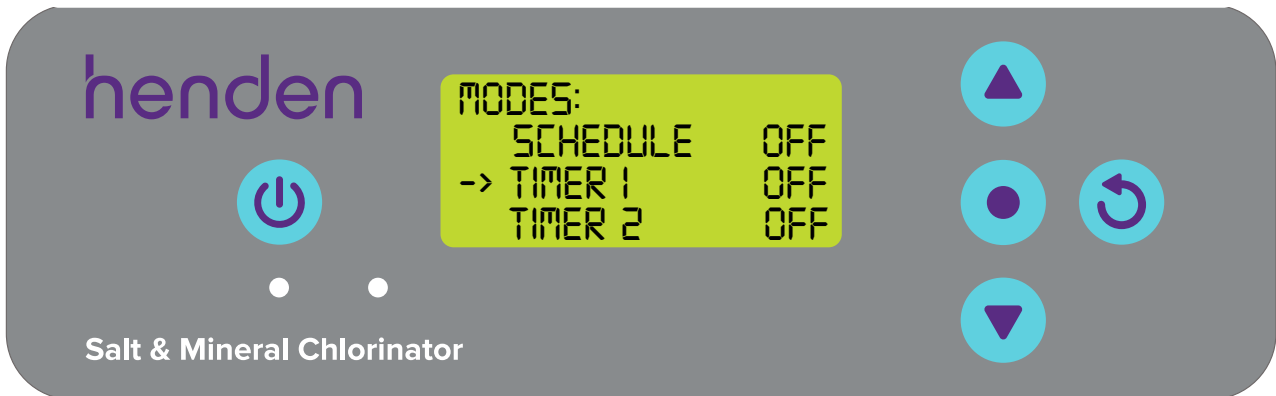

Figure 9.15
- From the MODES menu, select TIMER 1 (refer Figure 9.15).